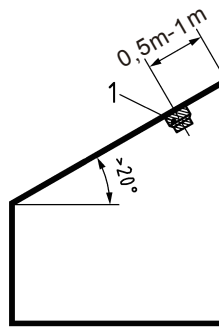
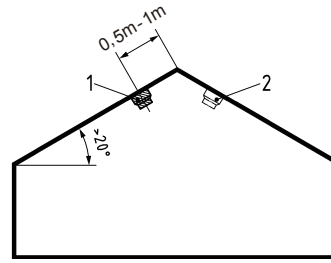
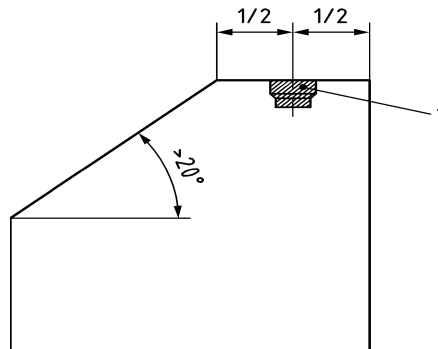
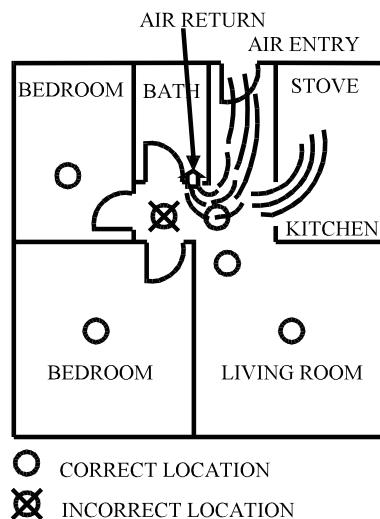

Figure 2 Mounting for ceiling with slope > 20°
Figure 3 Mounting for gabled ceiling with slope > 20°
Figure 4 Mounting in rooms with sloping ceiling and horizontal ceiling
Figure 5 Mounting in rooms with sloping ceiling and horizontal ceiling
- In dead air spaces, which are often at the top of a peaked roof or in apex of ceilings and walls. Dead air may prevent smoke from reaching a smoke alarm. See Fig. 2, Fig. 3, Fig. 4 and Fig. 5 for recommended mounting location.